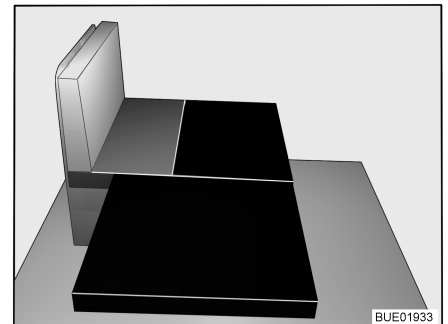

Fig. 38 After conversion
- Place large additional cushion on the cushion support (refer to Fig. 38).